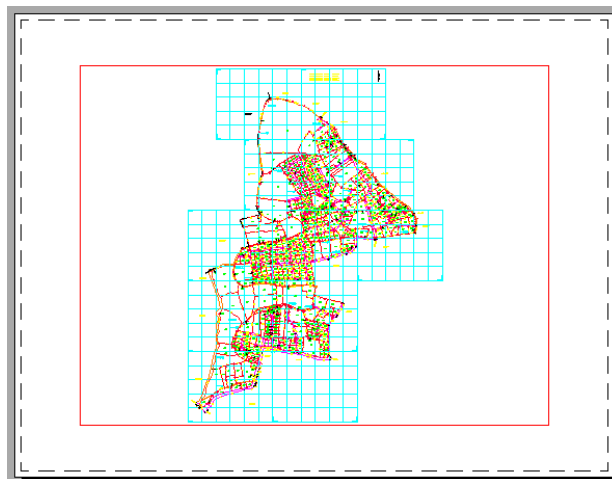

Figure 1: Entire Drawing on Layout Viewport
**Note:** When Paper Space Layout Mode is on, the White background represents the paper on which your drawing will be printed. The dashed line immediately inside the edge of the White area represents the limits of Printer's margin. Finally the solid rectangle that surrounds your drawing is the outline of the Layout viewport (see figure 1).